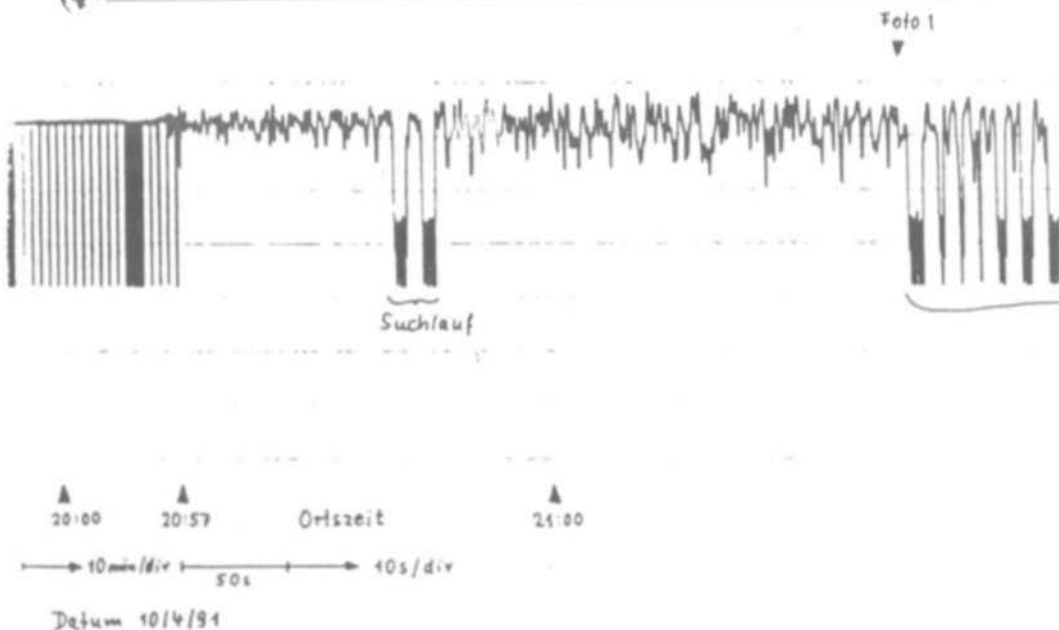

Fig.1: Recording of Scintillations at 21.38 on 04/10/92;
has been observed several dozen times on several evenings. Fig. 1 was obtained in exactly the same way as Fig. 6 in (1), but between 20:57 and 21:25 OZ the time-scale was switched to 10 s./div., so that the resolution was 60 times better than for the long-term recording.